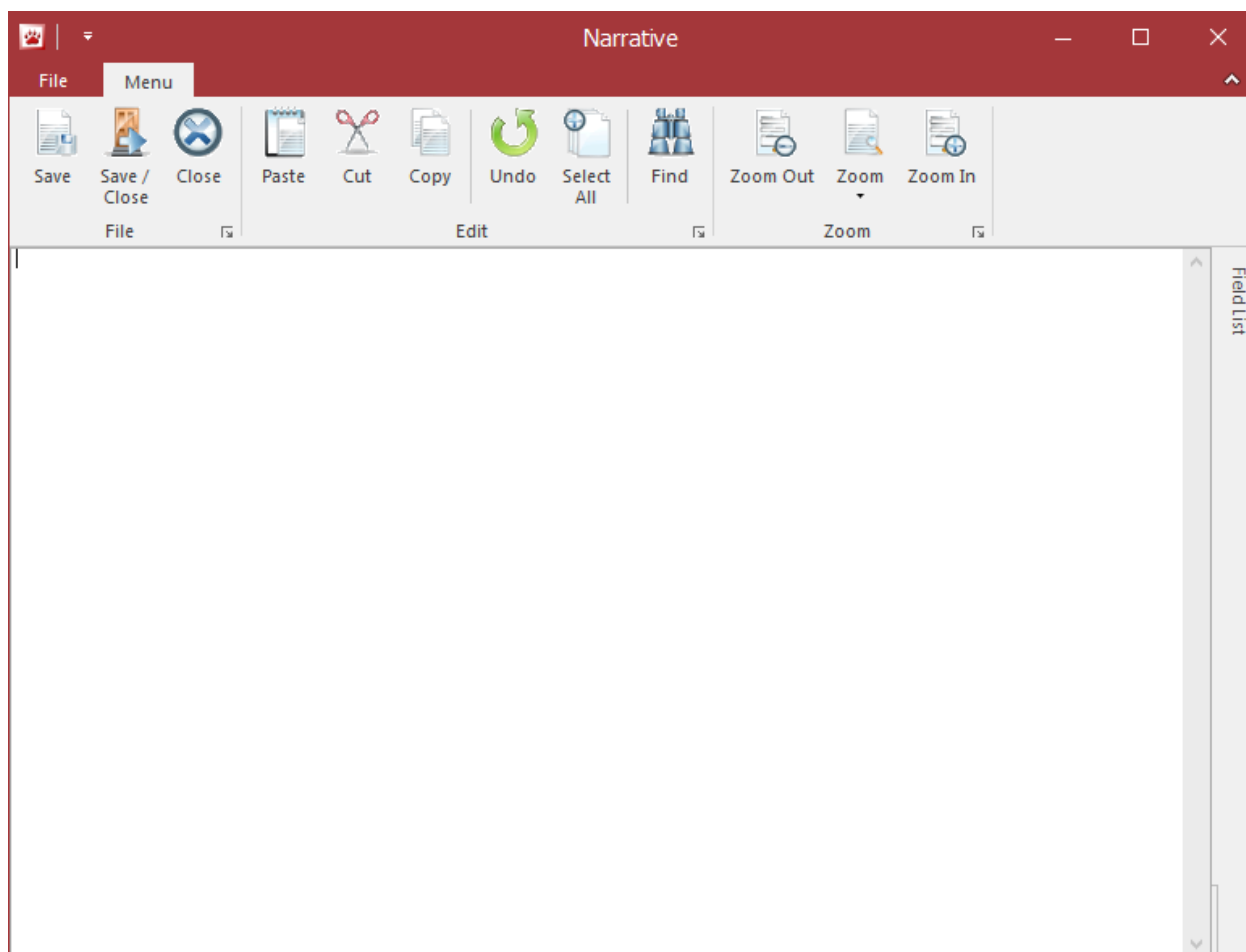

Figure 51. Narrative Dialog Box
2. Enter text directly in the Narrative databar box, or click **Edit** to open the Narrative box (shown in Figure 51 ) and enter the data there.